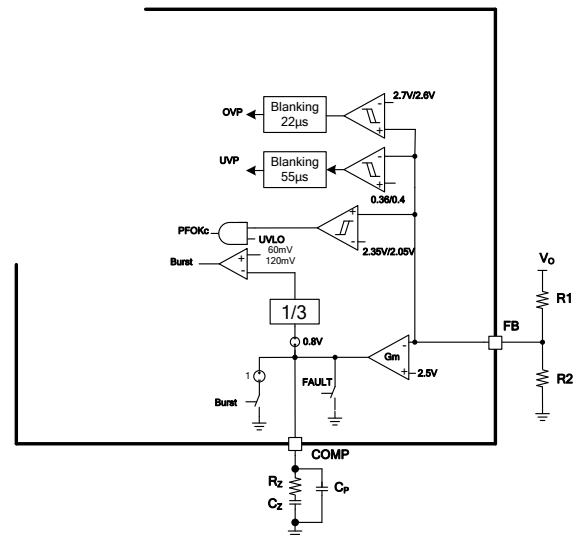

Figure 13: FB Function Block
The boost PFC output voltage is sensed on FB, and is compared with the internal reference V_R (typically 2.5V) (see Figure 13 on page 19). R_{O1} is recommended to be 10M Ω to minimize power consumption. R_{O2} can be calculated with Equation (1):
Figure 13 shows that if the FB voltage exceeds the OVP trigger threshold (typically 2.7V), the OVP comparator shuts down the output of the gate drive circuit after a blanking time (t_{BL_OVP}) of 22µs. Switching resumes when FB drops to 2.62V.